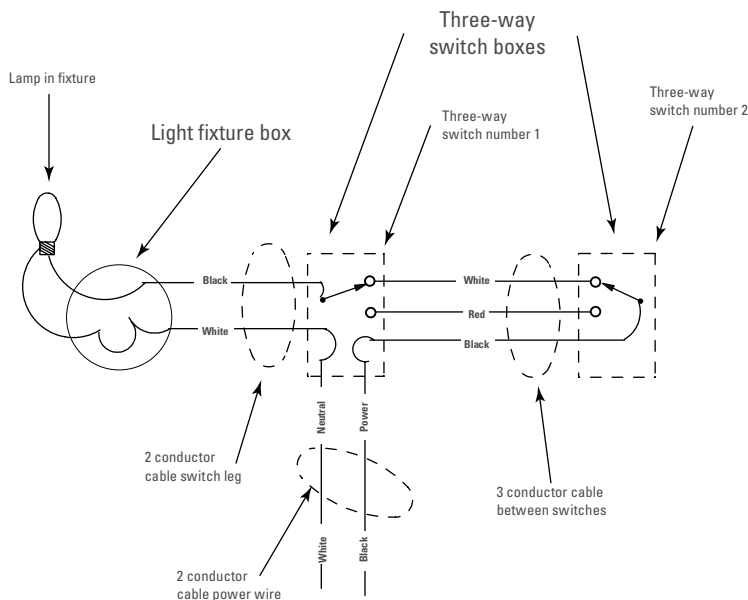

Figure 4-5:
- ✓ The second wiring layout for three-way switches, shown in Figure 4-5, brings the electrical circuit to the first three-way switch. The power neutral would connect to the white wire going to the fixture box. In the fixture box, the power neutral connects to the lamp neutral. The black circuit wire connects to the black of the three conductor to the second three-way switch. Everything else is the same.